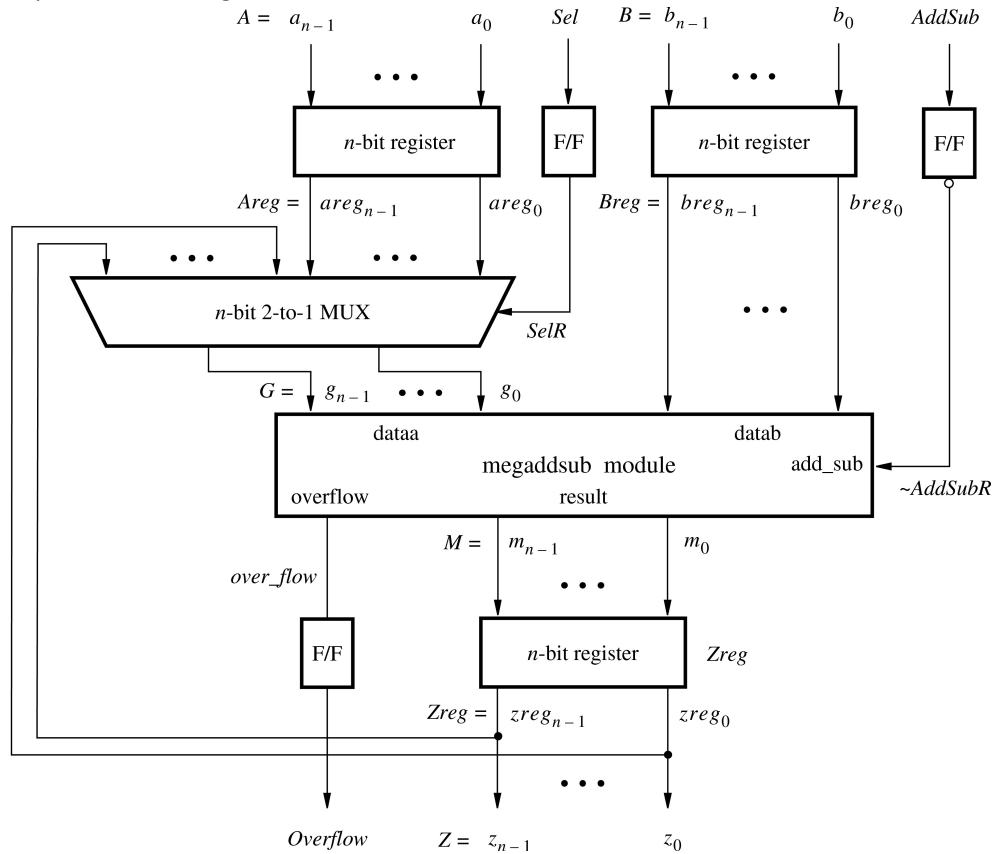

Figure 3. The augmented adder/subtractor circuit.
The LPMs in the IP Catalog are general in structure and they can be configured to suit a specific application by specifying the values of various parameters. We will use the *lpm\_add\_sub* module to simplify our adder/subtractor circuit defined in Figures 1 and 2. The augmented circuit is given in Figure 3. The *lpm\_add\_sub* module, instantiated under the name *megaddsub*, replaces the adder circuit as well as the XOR gates that provide the input *H* to the adder. Since arithmetic overflow is one of the outputs that the LPM provides, it is not necessary to generate this output with a separate XOR gate.
4. In the box in Figure 6 specify that the width of the data inputs is 16 bits. Also, specify the operating mode in which one of the ports allows performing both addition and subtraction of the input operand, under the control of the *add\_sub* input. A symbol for the resulting LPM is shown in the top left corner. Note that if *add\_sub* = 1 then *result* = *A + B*; otherwise, *result* = *A - B*. This interpretation of the control input and the operation performed is different from our original design in Figures 1 and 2, which we have to account for in the modified design. Observe that we have included this change in the circuit in Figure 3. Click Next.